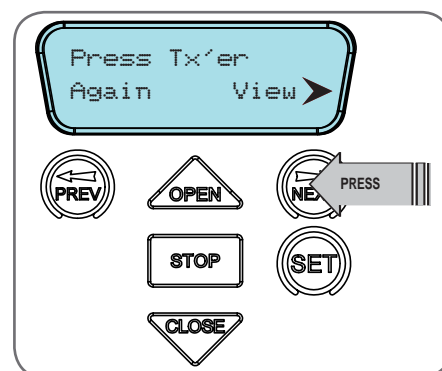

Fig G.3
- Press NEXT to view the transmitter parameters (**Fig. G.3**). This method is used for quick navigation if the transmitter is available.